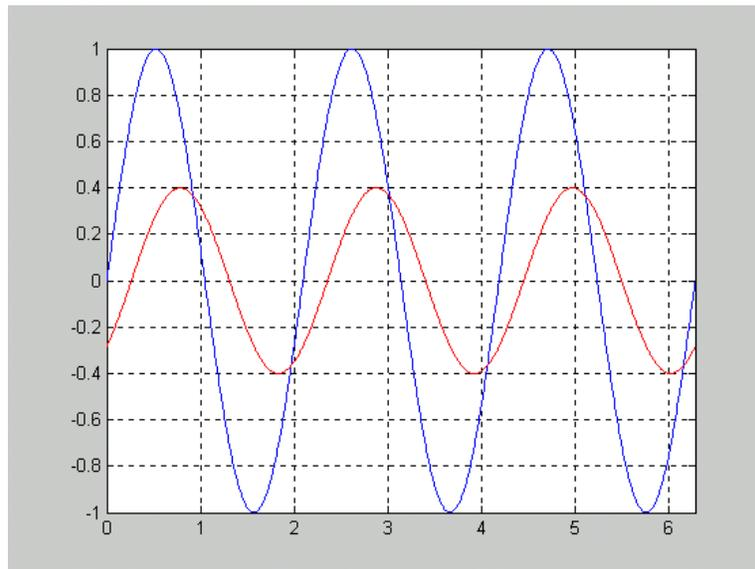

Figure 1 – Graph of input and output Sinusoids
2. Determine the equations of the sine waves depicted in Figure 1. The y-axis is magnitude and the x-axis is time ranging from 0 to 2π seconds. The larger amplitude signal is the input and the smaller amplitude signal is the output.